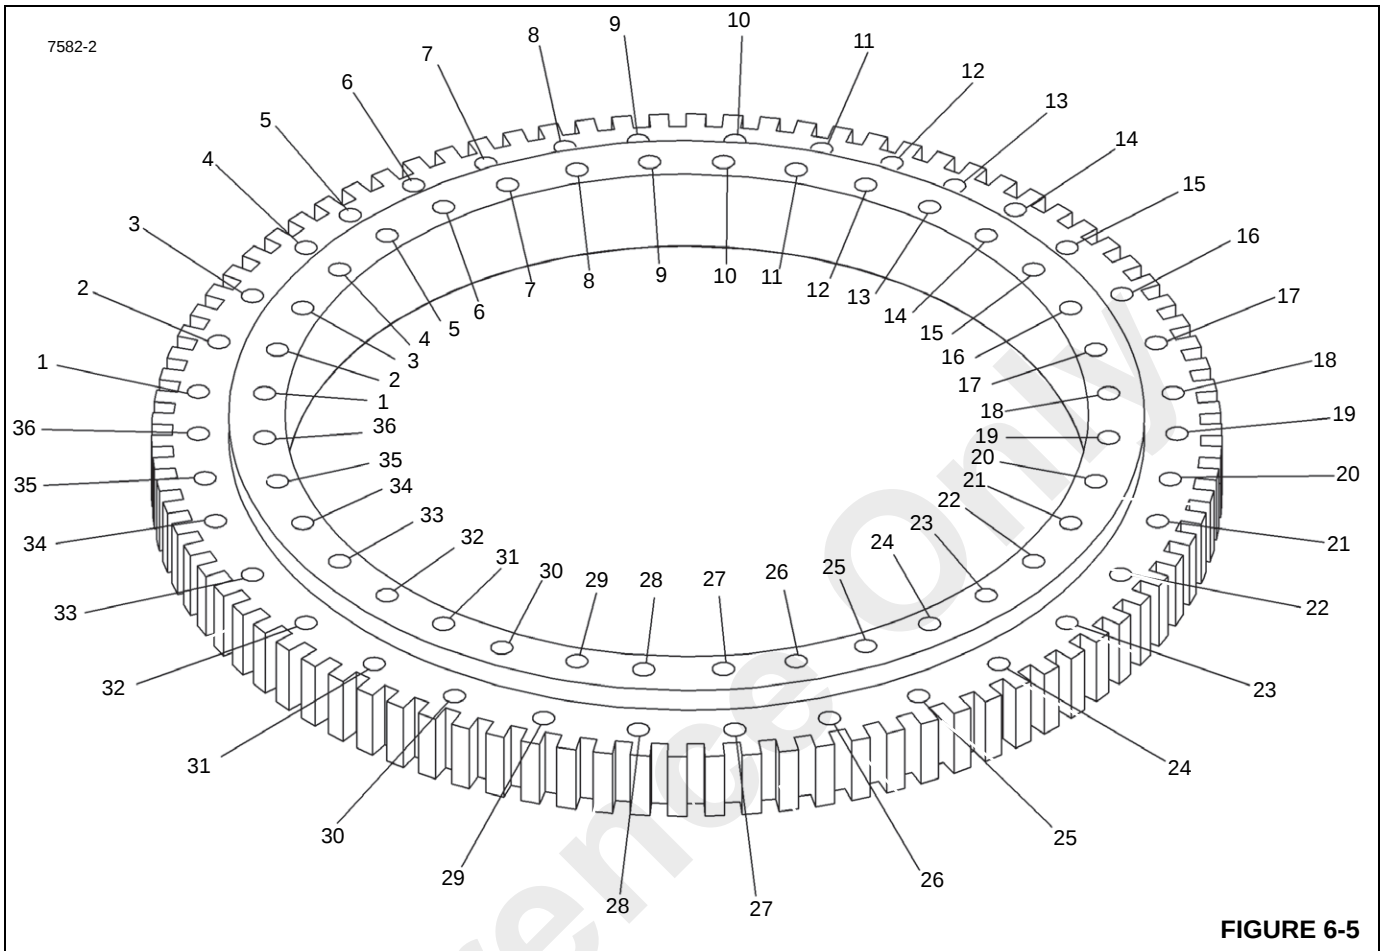
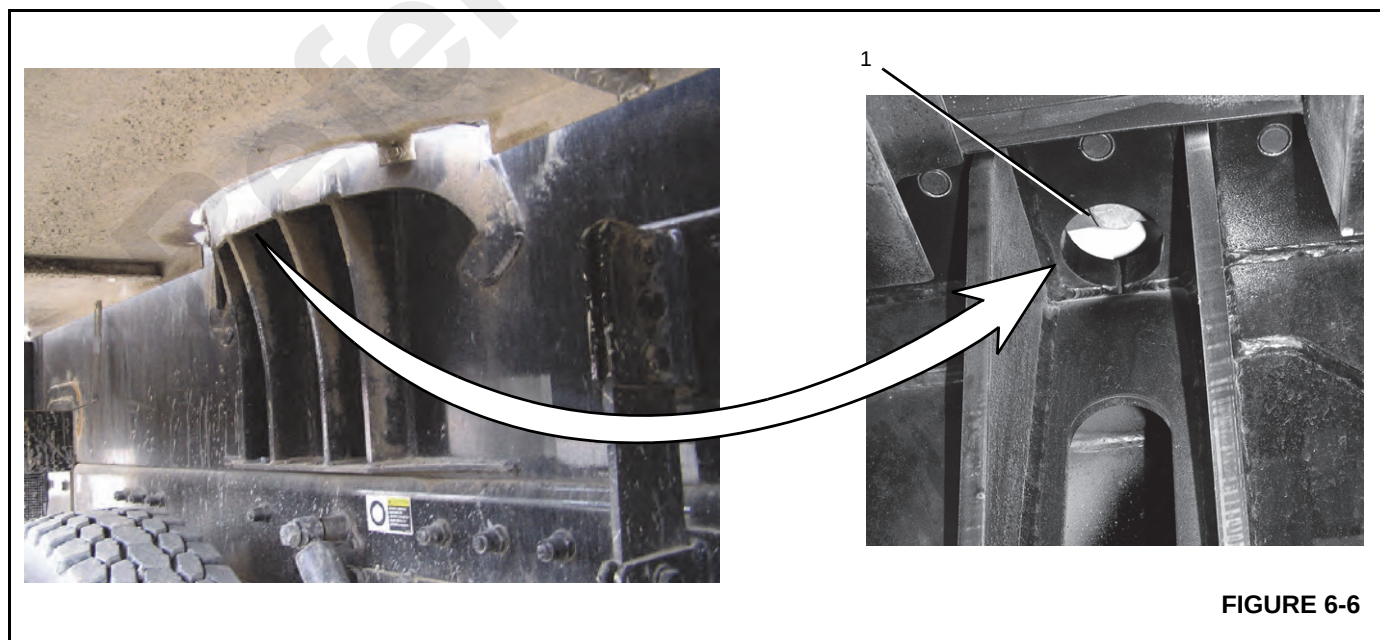

FIGURE 6-5
FIGURE 6-6
8 bolts (Figure 6-5). The outer race of the bearing is secured to the carrier frame by 36, 7/8 inch, Grade L9 bolts (Figure 6-5).
The inner race bolts (Figure 6-5) can be accessed through the access holes underneath the bed (1, Figure 6-6).
2. Torque eight bolts (Figure 6-5) to 470 lb-ft $\pm$ 20 lb-ft (637 Nm $\pm$ 27 Nm) using the following sequence pattern; 1, 19, 10, 28, 6, 23, 15, and 33. Tools used are the socket, multiplier, backlash adapter, necessary extensions, and torque wrench.
Torque eight bolts (Figure 6-5) to 470 lb-ft $\pm$ 20 lb-ft (637 Nm $\pm$ 27 Nm) using the following sequence pattern; 1, 17, 9, 25, 4, 20, 12, and 28. Tools used are the socket, multiplier, backlash adapter, necessary extensions, and torque wrench.
5. Install all bolts and washers that are not covered by the swing motor. Refer to Outer Race Torquing in Figure 6-5.